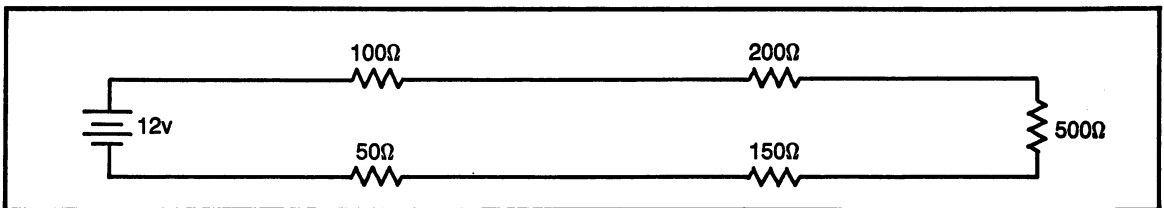

Fig. Ex1-4. Problem 48.
- (46) Which parameter is the same at all points in a series circuit?
- (47) Which parameter is the same throughout a parallel circuit?
- (48) Use the circuit in Fig. Ex1-4 to find total resistance.